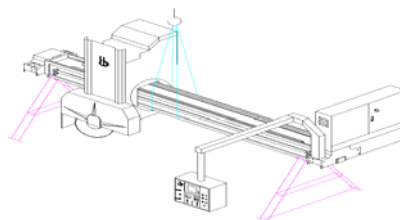

Figure 3
**1) Bridge** (includes the cutting-head, the master-electrical-cabinet and control- pane) (Figure 3):